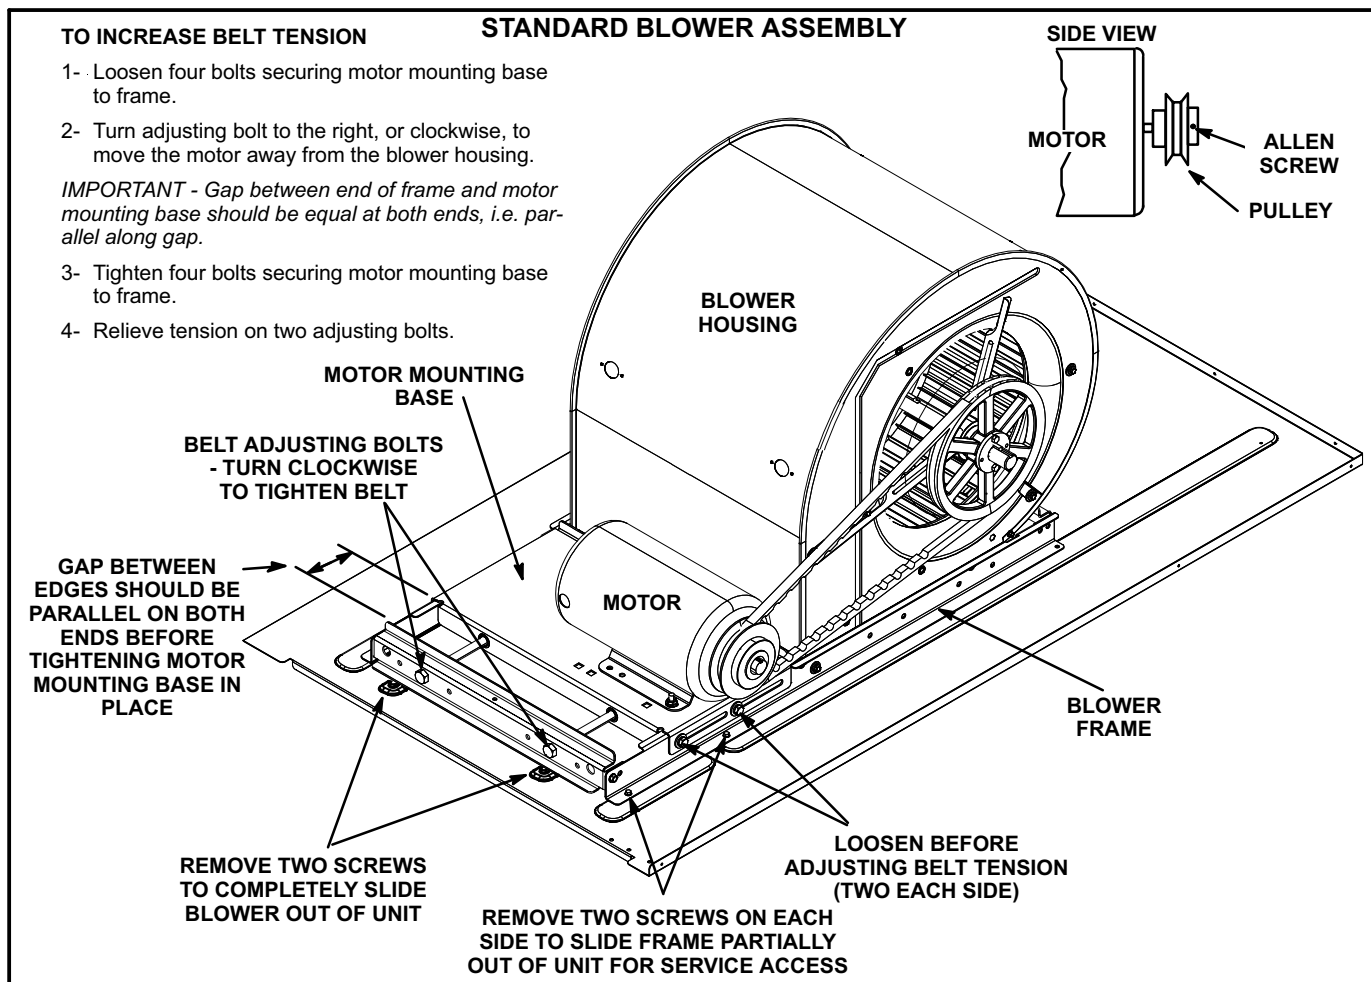

FIGURE 13
The blower assembly is secured to a sliding frame which allows the blower motor to be pulled out of the unit. See figure 13.
- 4- The blower RPM can be adjusted at the motor pulley. Loosen Allen screw and turn adjustable pulley clockwise to increase CFM. Turn counterclockwise to decrease CFM. See figure 13. Do not exceed minimum and maximum number of pulley turns as shown in table 2.
- 1- Loosen four bolts securing motor base to mounting frame. See figure 13.